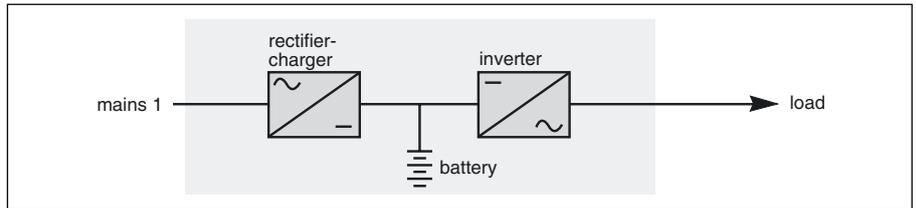

Fig. 4
- ▶ Frequency converter with battery backup power: (figure 4)